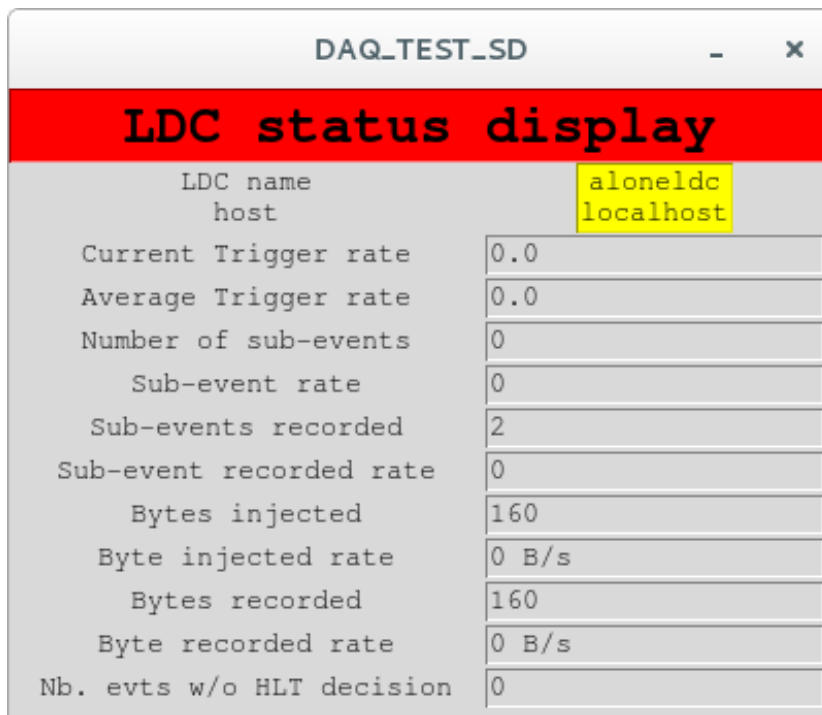

Figure 36: The first LDC Status window.
18. Press `<Start multiple runs>` on the SCRIBE window to begin taking data. The windows in figures 36 and 37 should appear.
The first LDC status window (fig. 36) displays information on the current run (i.e., how many subevents were captured, the rate at which data is being taken, etc.). This allows one to confirm that data is actually being taken. The numbers should change from 0 in figure 36 to a positive, nonzero number, such as the window displayed in fig. 38